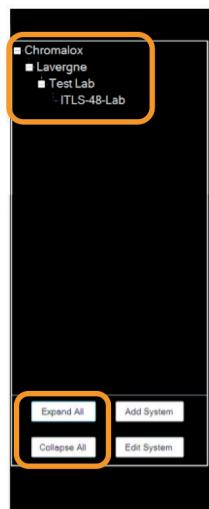

Figure 6
1. Select the System (Panel) that you wish to edit or program from either the System Tree Pane on the left or from the Panel List on the right. A fully expanded System Tree is represented in Figure 6: